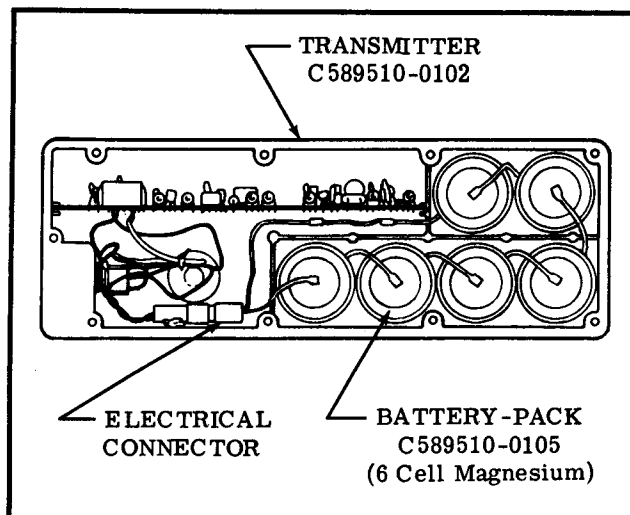

Figure 16-15. Magnesium 6 Cell Battery-Pack Installation
16-93. REMOVAL AND INSTALLATION OF MAGNESIUM SIX (6) CELL BATTERY-PACK. (Refer to figure 16-15.)
- d. Place new battery-pack in the transmitter with four batteries as shown in the case in figure 16-15.